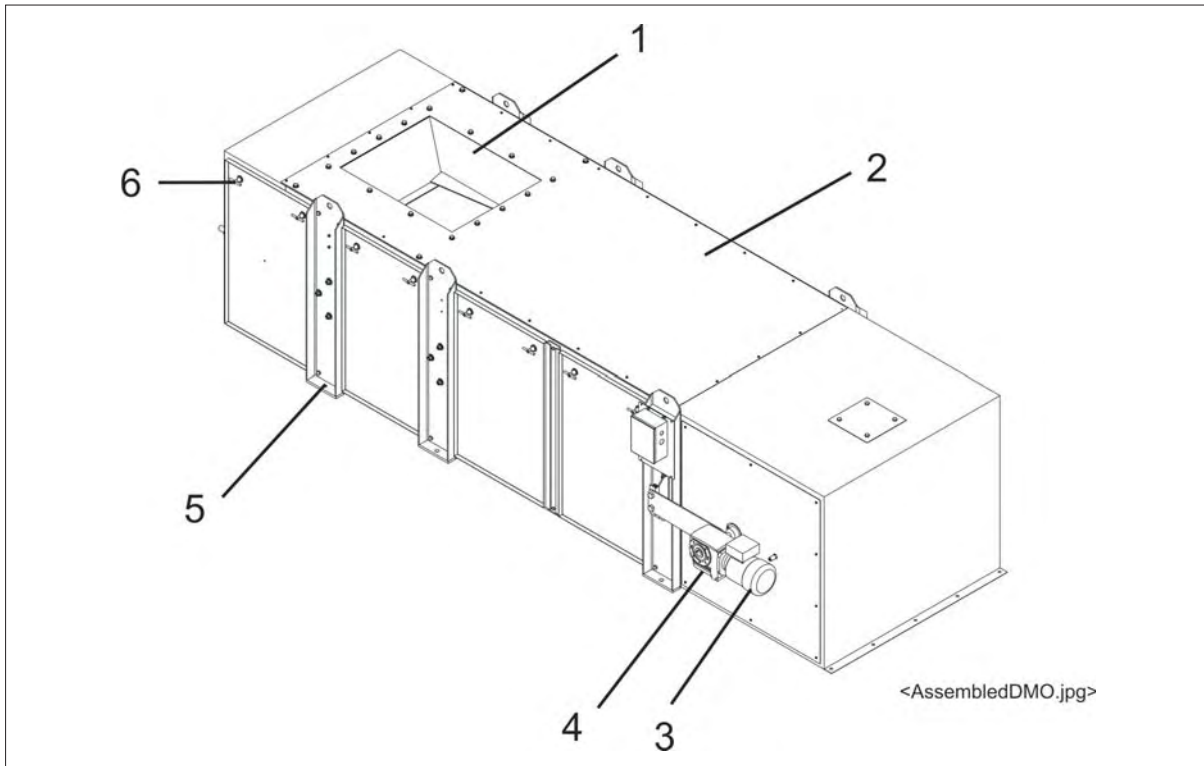
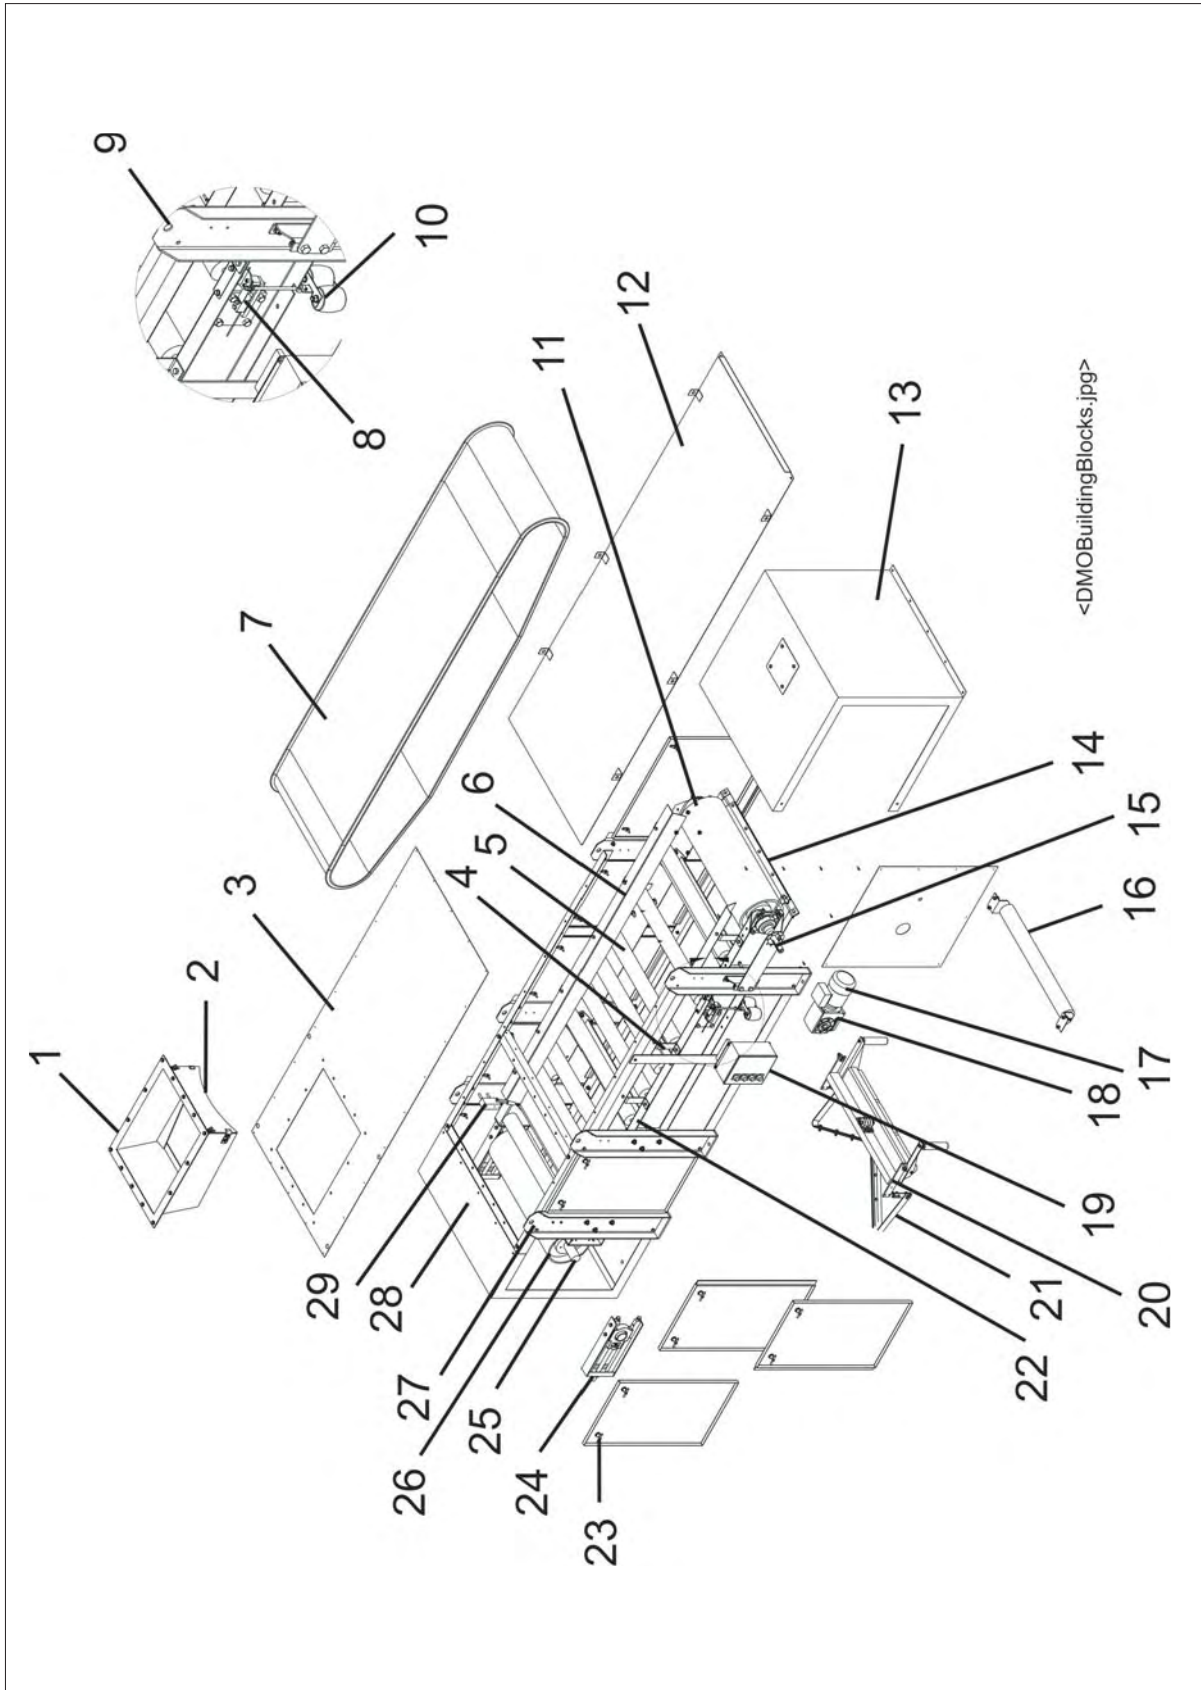

Figure 2: Assembled DMO Weighfeeder
Figure 3: DMO Weighfeeder Building Blocks
Figure 2 shows an assembled DMO weighfeeder. Figure 3 shows the DMO weighfeeder in an exploded-view format and indicates essential building blocks.
Figure 2 call-outs:
Figure 3 call-outs:
To lift the DMO, hook the crane hooks onto four of the lifting points (see item 9, figure 3, page 11), making sure the DMO is evenly balanced.